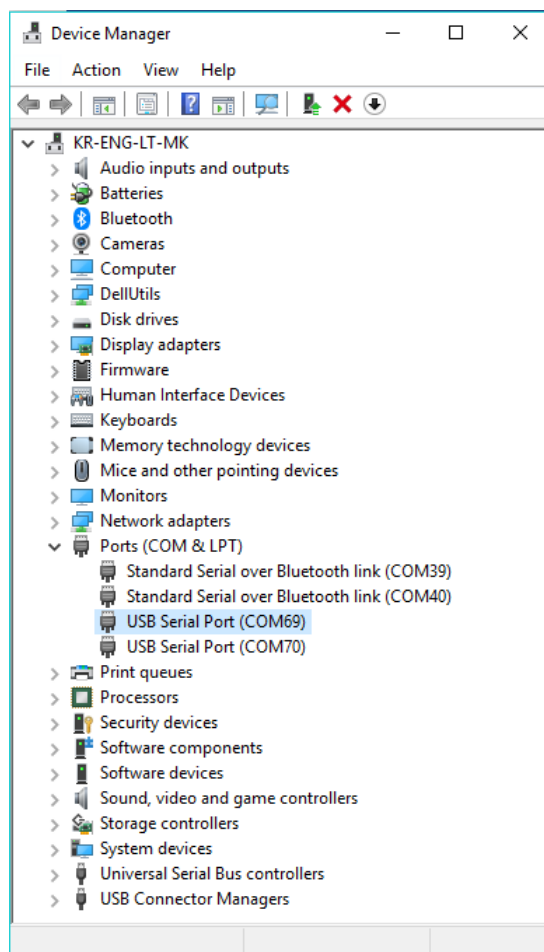

Figure 32: Check COM Ports on Device Manager
There are two virtual COM ports created by the Windows driver. The first COM port (lower number, COM69 in Figure 32) provides a UART interface for debugging or firmware download between the PC and the DA161200. The second (higher number, COM70 in Figure 32) is used for AT command.
2. Make sure that the PC discovered the two serial ports in Windows Device Manager as shown in Figure 32. The higher COM port number is connected to UART1.